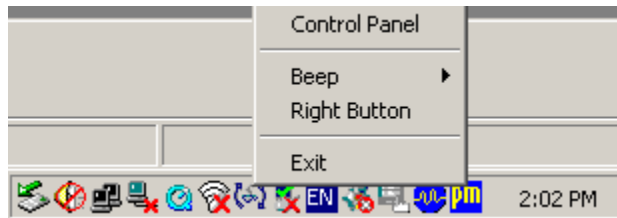

Figure 6-27: PenMount Monitor Popup Menu
Step 3: Click the icon. A pop up menu appears. See **Figure 6-27**.
Step 4: Click Control Panel in the pop up menu shown in **Figure 6-27**.